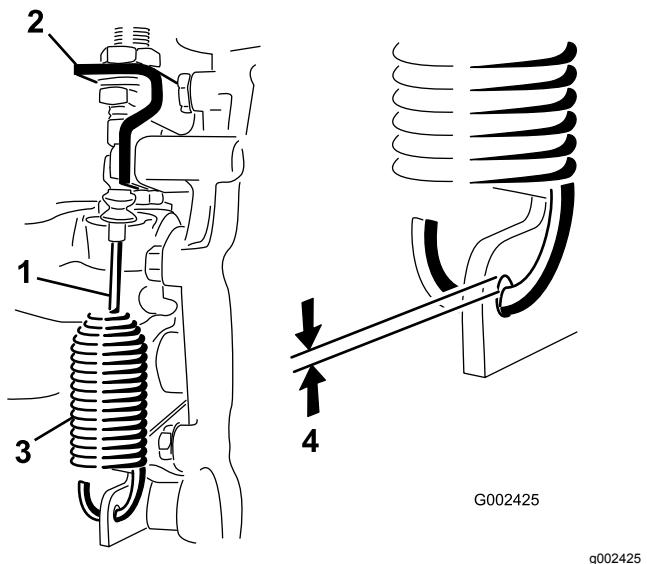

Figure 43
2. Loosen the jam nuts securing the differential-lock cable to the bracket on the transaxle (Figure 43).